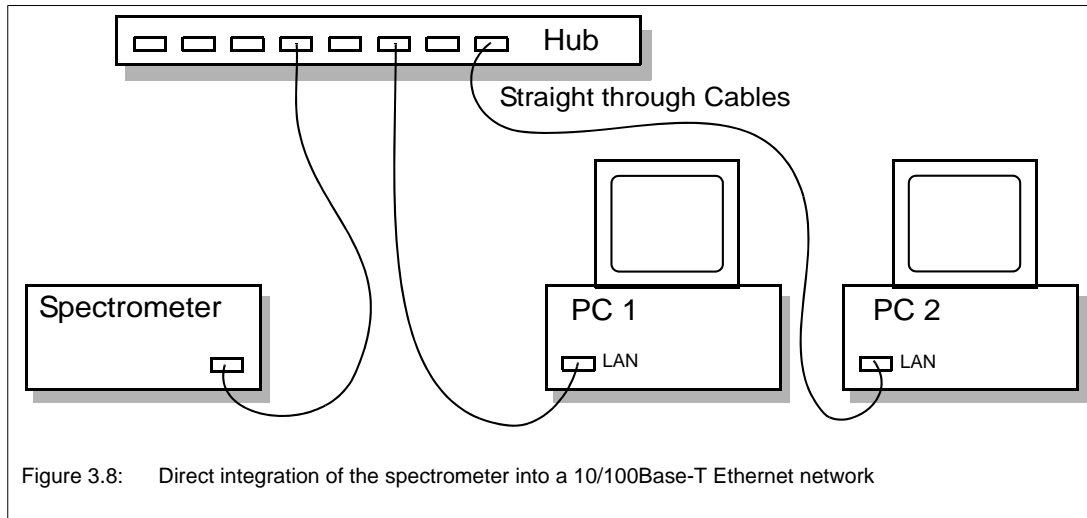

Figure 3.8: Direct integration of the spectrometer into a 10/100Base-T Ethernet network
- Connecting both the spectrometer and PC to a network. See fig. 3.8.
Only in case of connection variant B (i.e. connecting the spectrometer directly to a network, see fig. 3.8), different spectrometer network addresses are required. They need to be defined by your network administrator and assigned to the spectrometer using the FCONF program (Firmware Configuration). This program is part of the OPUS software.
In case of connection variant B (fig. 3.8) and variant C (fig. 3.9), your network administrator has to define the network addresses for the PC. These addresses need to be assigned to the network interface card LAN of the PC.